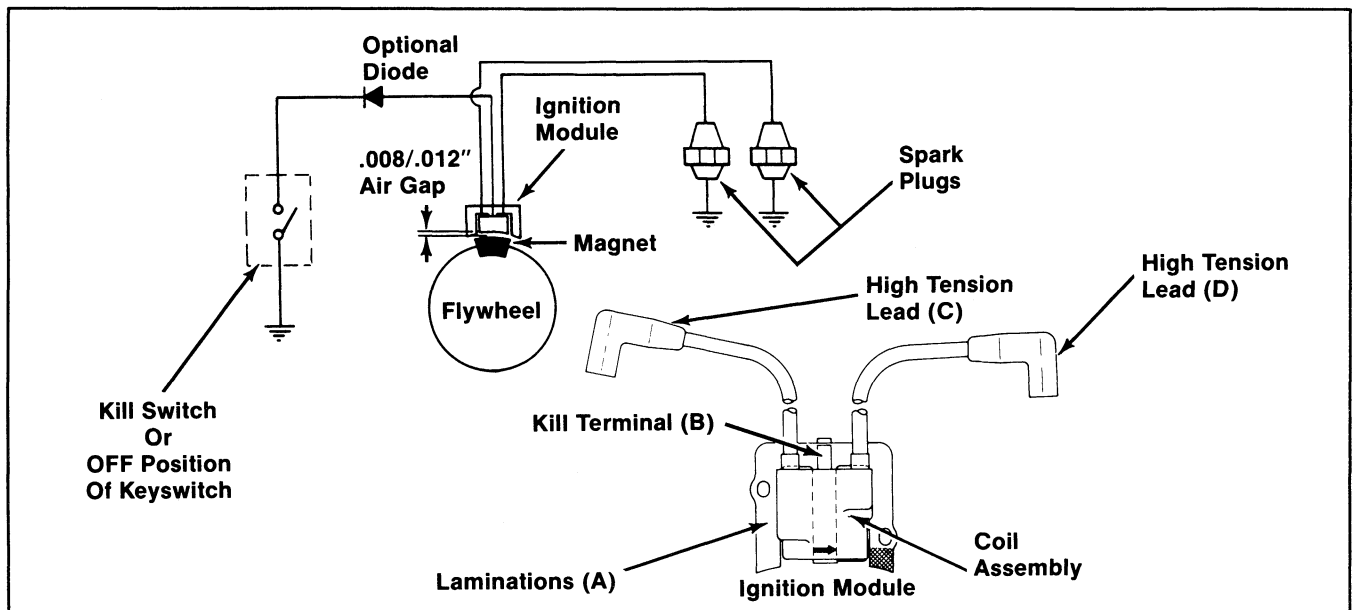

Figure 8-1. Magnum Electronic Magneto Ignition System.
This engine is equipped with a state-of-the-art electronic magneto ignition system. The system consists of the following components (refer to Figure 8-1):
4. Measure the secondary resistance of module using an ohmmeter. Refer to Figures 8-1 and 8-4. NOTE: Module must have been "fixed" to perform Test 4.	If resistance is within range, module secondary is OK. If resistance is low or 0 ohms, module secondary is shorted. Replace module. If resistance is high or infinity ohms, module secondary is open. Replace module.